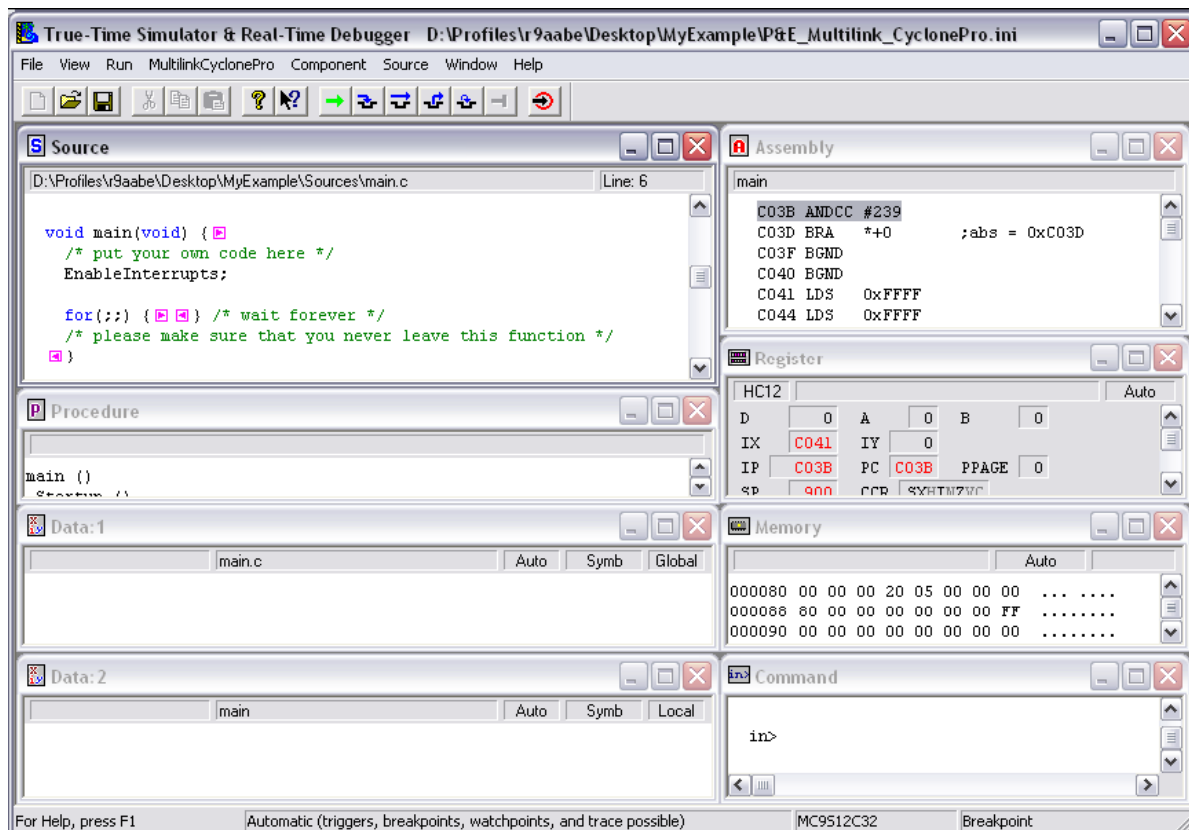

Figure 15. CodeWarrior Debugger Window
- d) Once the debugger is launched a window similar to Figure 15 will appear. The operation of the various sub windows is listed in Table 3 on the subsequent page. The configuration of sub-windows can be user configured and saved using File->Save Workspace